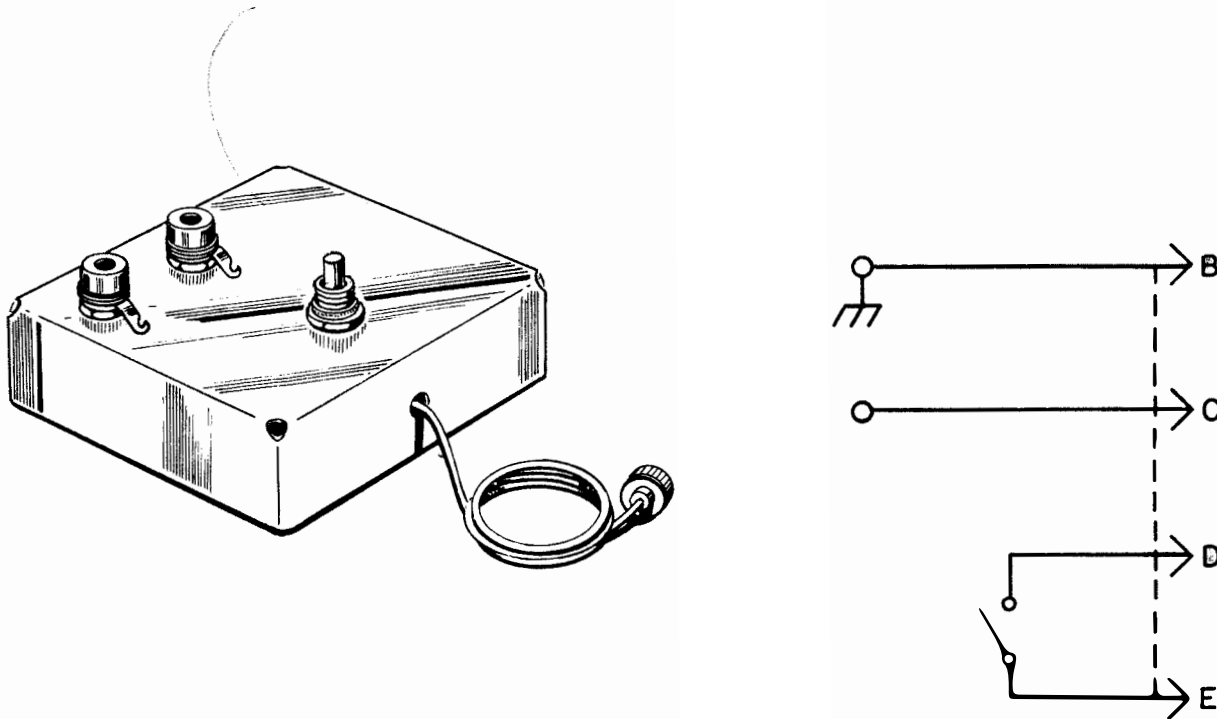

Figure 2-5. Keying Fixture Fabrication Details
- (1) A small aluminum chassis.
- (2) Two banana jacks.
- (3) A SPST toggle switch.
- (4) A MS3106A14S⁵ ~~6P~~ connector.
- (5) Four feet of four conductor cable.
- d. Wire the other end of the cable to the banana jacks and toggle switch as shown in figure 2-5.